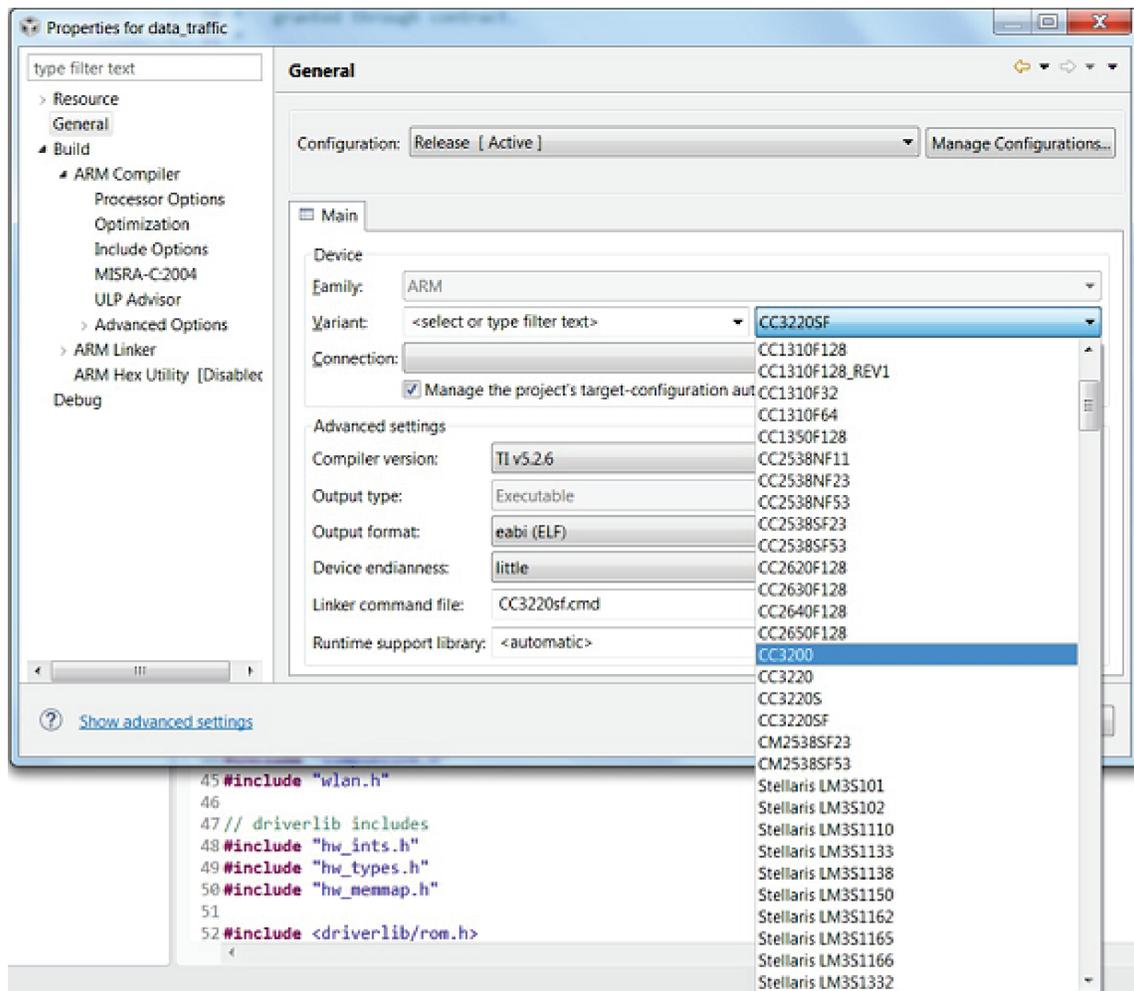

Figure 2-4. Select Device Variant
2. Select the required device variant under General → Main → Variant, as shown in Figure 2-4.